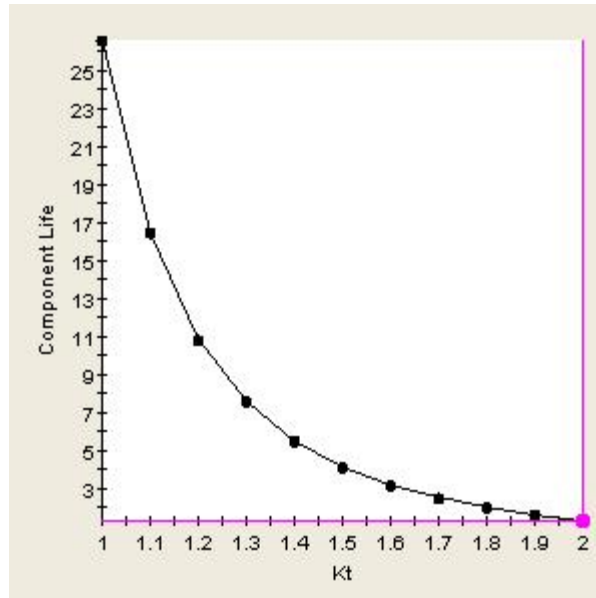

Figure 6-9: The Life-Surface Finish diagram
- 1) Create a line plot from the Graphs tab to resemble that of Figure 6-9.